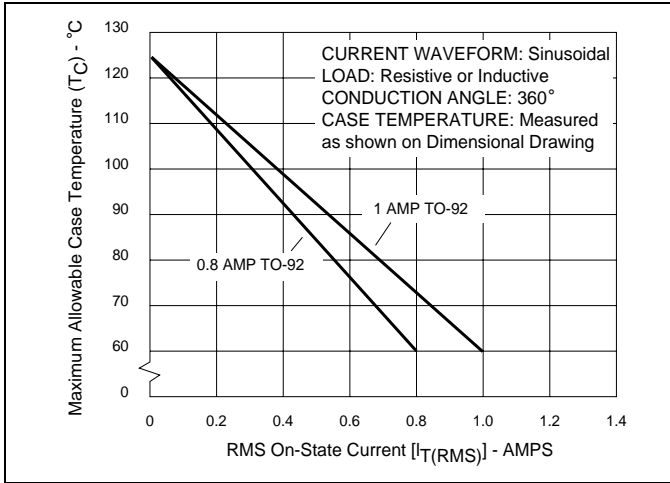
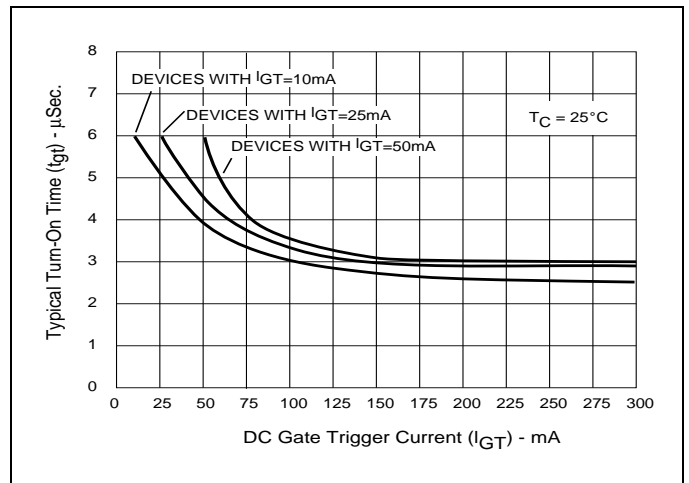

Figure 2.1 Maximum Allowable Case Temperature vs On-State Current (0.8 and 1.0 Amp)
Figure 2.15 Turn-On Time vs Gate Trigger Current (Typical)
- See Figures 2.1 through 2.7 for current rating at specific operating temperature.
- See Figure 2.15 for t_{gt} vs I_{GT} .
- Initial on-state current = 200mA(DC) for 0.8 -10 amp devices, 400 mA(DC) for 15 amp to 25 amp devices.
- See Figures 2.1 through 2.6 for maximum allowable case temperature at maximum rated current.